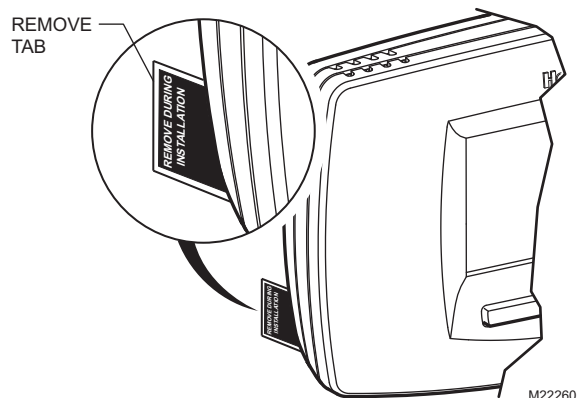

**Fig. 22. Installing batteries.**
1. Install two AA alkaline batteries on the back of the thermostat as marked. See Fig. 22.